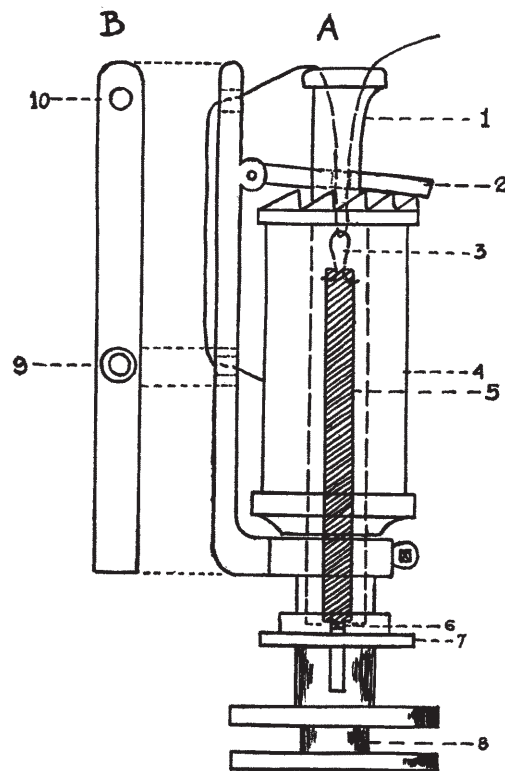

Figure 1
Fig. 1, shows a complete spindle assembly ready for mounting in the plate of a Torchon machine. This figure shows a ratchet spool (4) mounted and threaded. The vital features of this spindle are the spring (5), yarn eye (3), and spool ratchet (2).